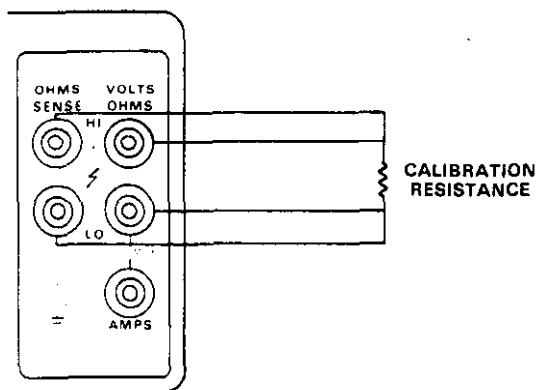

Figure 5-2. Connections for Verification of 20Ω, 200Ω, and 2kΩ Ranges
3. Connect a 19Ω calibration resistor to the instrument as shown in Figure 5-2. Note that the 4-terminal configuration is used for this measurement. Place the instrument on the 20Ω range and check to see that the displayed reading is within the limits in Table 5-3.
4. Connect a 190Ω calibration resistor to the instrument as shown in Figure 5-2. Switch the instrument to the 200Ω range and see that the displayed reading is within the limits set in Table 5-3.
5. Connect a 1.9kΩ calibration resistor to the instrument as shown in Figure 5-2. Switch the instrument to the 2kΩ range and check to see that the reading is within prescribed limits.
- Connect the DC current calibrator to the Model 195 as shown in Figure 5-2. The HI side of the calibrator output should be connected to the AMPS terminal and the LO side calibrator output should be connected to the VOLTS OHMS LO terminal. Make sure the rear panel INPUTS switch selects the front panel terminals. Set the calibrator output to 0.0000 and enable the zero mode.